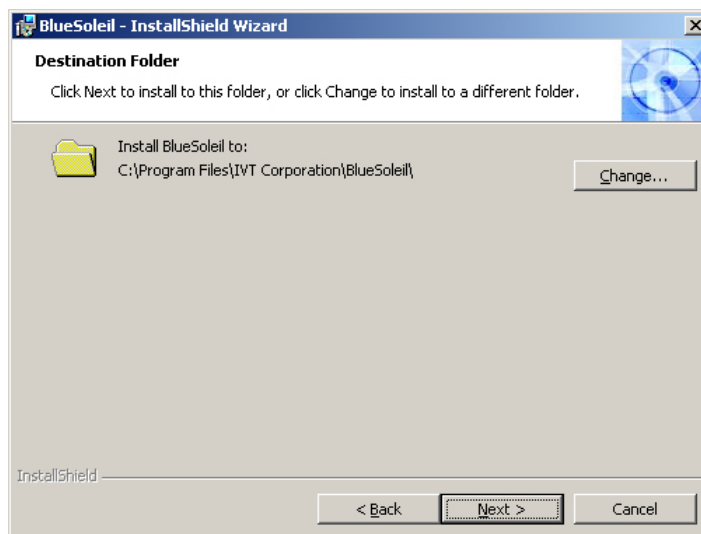

Figure 7-34: Bluetooth Driver Destination Folder
Step 7: The **Destination Folder** screen in **Figure 7-34** appears next. Confirm the destination folder to install the Bluetooth driver.